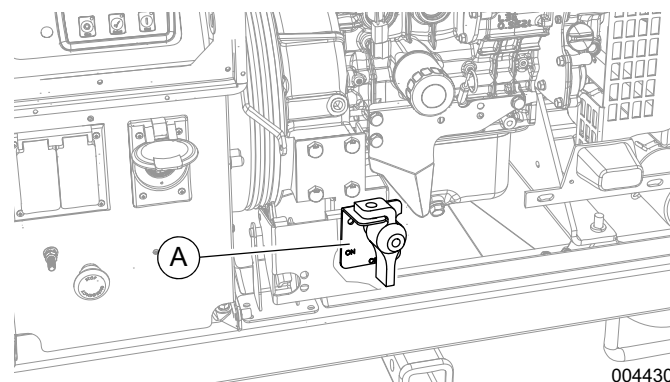

Figure 2-8. Battery Disconnect
See Figure 2-8. This unit may be equipped with a battery disconnect switch (A). This lockable switch temporarily removes the battery from the unit electrical circuit without actually disconnecting the battery cables.